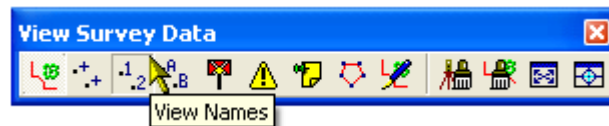

Figure 3-1 InRoadsView Survey Data Toolbar
- Turn on the point numbers, from the InRoads main menu bar select **Survey > View Survey Data > Names** or select the View Names tool as shown on Figure 3-1.
- A. Turn off the point numbers, from the InRoads main menu bar select **Survey > View Survey Data > Names** or select the View Names tool as shown on Figure 3-1.
- C. Turn on the point numbers, from the InRoads main menu bar select **Survey > View Survey Data > Names** or select the View Names tool as shown on Figure 3-1.